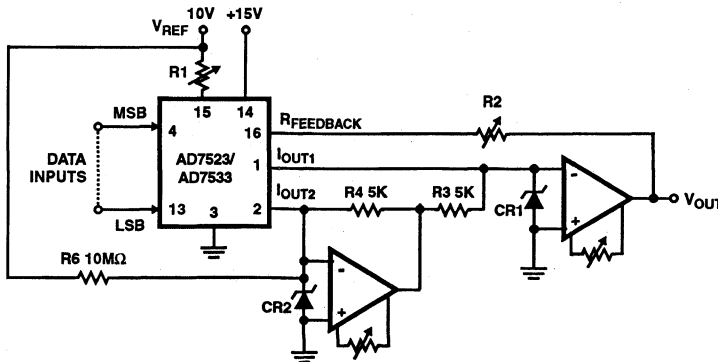

FIGURE 3. BIPOLAR OPERATION (4-QUADRANT MULTIPLICATION)
The circuit configuration for operating the AD7523 in the bipolar mode is given in Figure 3. Using offset binary digital input codes and positive and negative reference voltage values, Four-Quadrant multiplication can be realized. The "Digital Input Code/Analog Output Value" table for bipolar mode is given in Table 3.)
I_{OUT1} and I_{OUT2} bus currents are complements of one another. The current amplifier at I_{OUT2} changes the polarity of I_{OUT2} current and the transconductance amplifier at I_{OUT} output sums the two currents. This configuration doubles the output range. The difference current resulting at zero offset binary code, (MSB = "Logic 1", all other bits = "Logic 0"), is corrected by using an external resistor, (10M Ω), from V_{REF} to I_{OUT2} (Figure 3).
The circuit configuration for operating the AD7533 in the bipolar mode is given in Figure 3. Using offset binary digital input codes and positive and negative reference voltage values, 4-Quadrant multiplication can be realized. The "Digital Input Code/Analog Output Value" table for bipolar mode is given in Table 4.
3. Nominal LSB magnitude for the circuit of Figure 3 is given by $LSB = V_{REF} \left(\frac{1}{512} \right)$